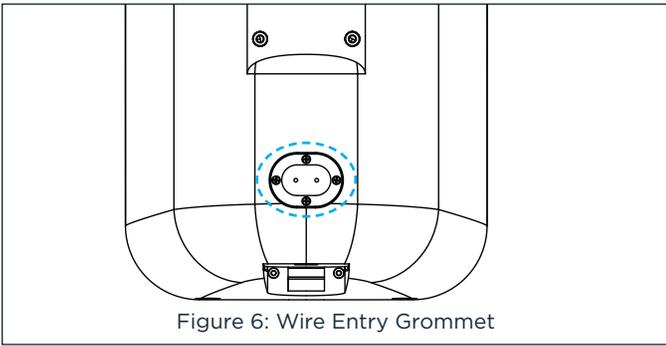

Figure 6: Wire Entry Grommet
5. Feed the loudspeaker wires from the brackets into the wire entry grommets on the backs of the loudspeakers, through the wire tunnels and out the openings on the loudspeakers’ front panels (see Figure 6 and 7).